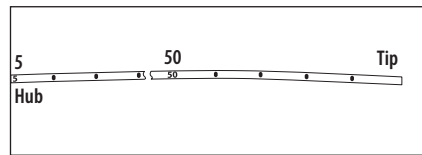

Figure 24
- Single numbering pattern (refer to Figure 24):